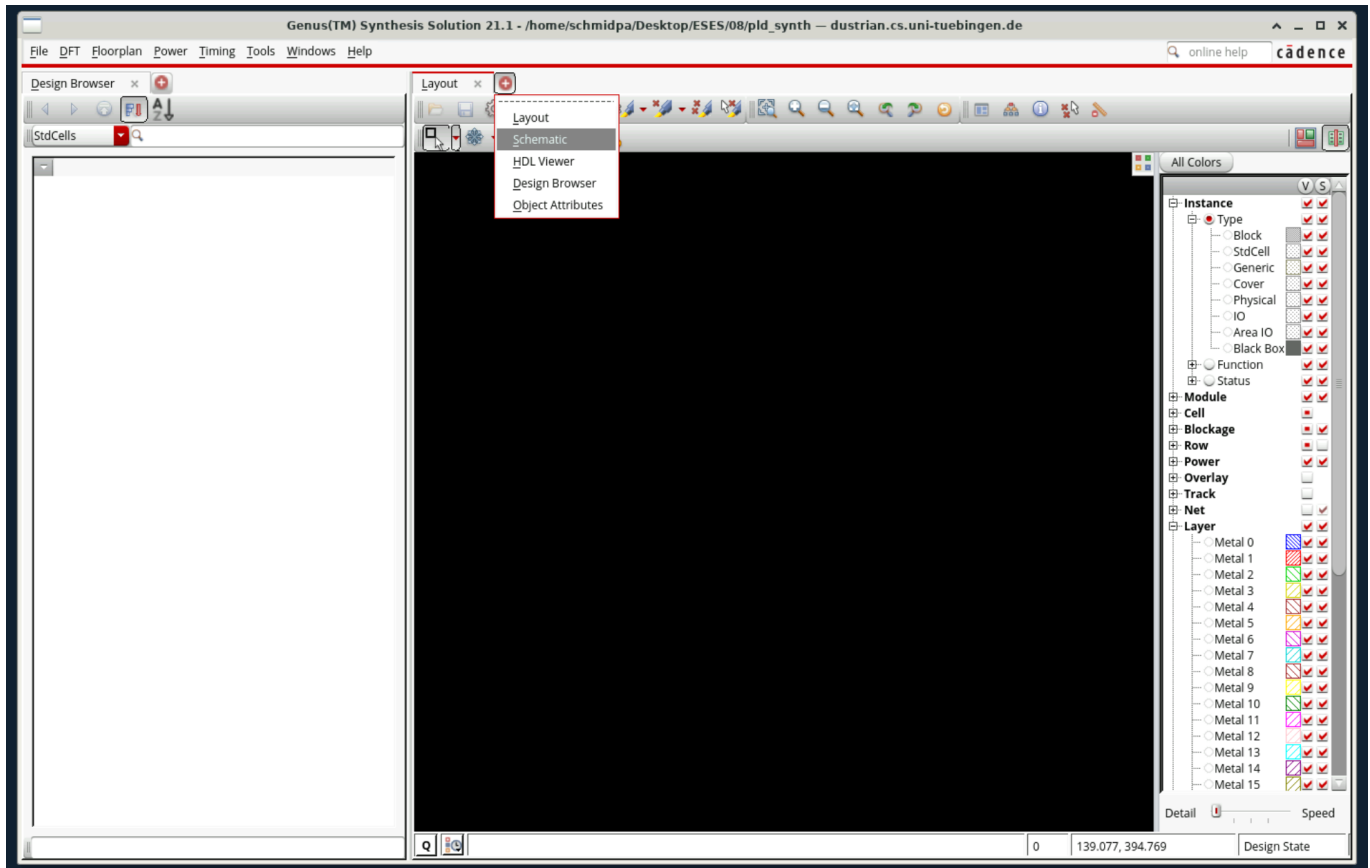

Figure 1: Schematic-Pane Genus
- (a) Execute the command `make synthesis_gui` and wait until the GUI of the synthesis tool has opened. Then add a `Schematic` tab in the middle window, as you can see in Figure 1 and switch to this tab.